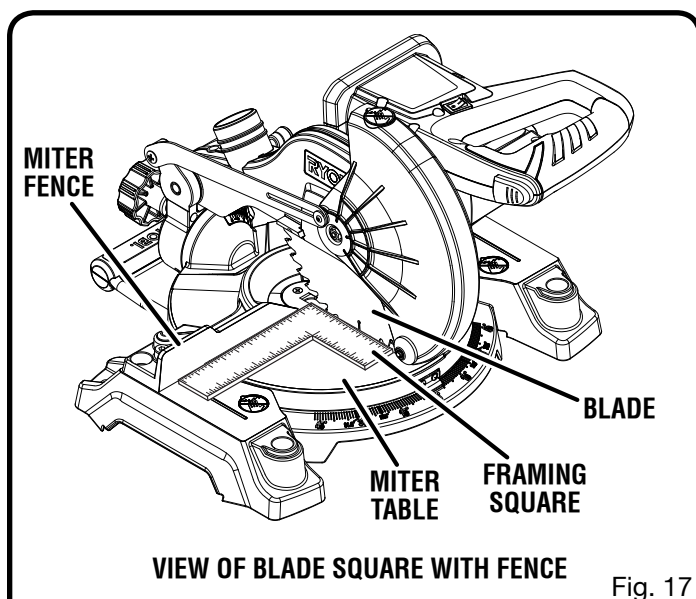

Fig. 17
- The edge of the square and the saw blade should be parallel as shown in figure 17.